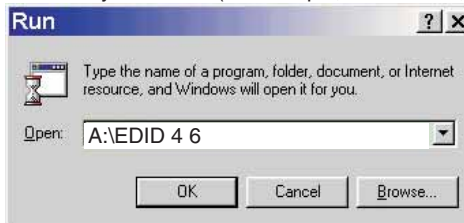

Fig.8
3. At the submenu, type the letter of your computer's floppy disk drive followed by :EDID 4 6 (for example, A:\EDID 4 6, as shown in Fig. 8).